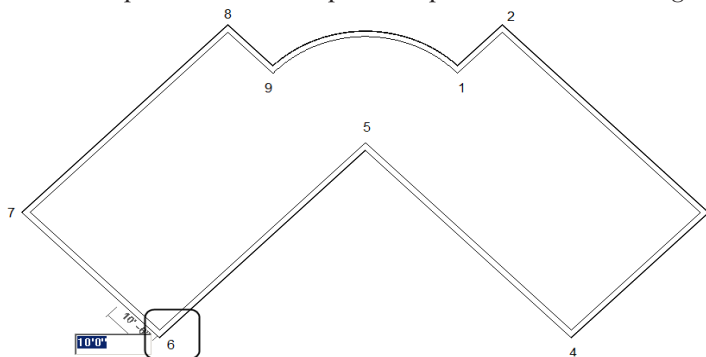

Figure 3-69 Specifying the start point of the first interior wall
- Sketch the interior walls based on the given parameters, refer to Figures 3-69 through 3-75.
3. Move the cursor close to the lower left corner, marked as 6, refer to Figure 3-69, and traverse upward along the centerline of extreme left wall of the building profile. When the temporary dimension appears, enter the value **10'(3048 mm)** and press ENTER to start the interior wall profile from the specified point, as shown in Figure 3-69.